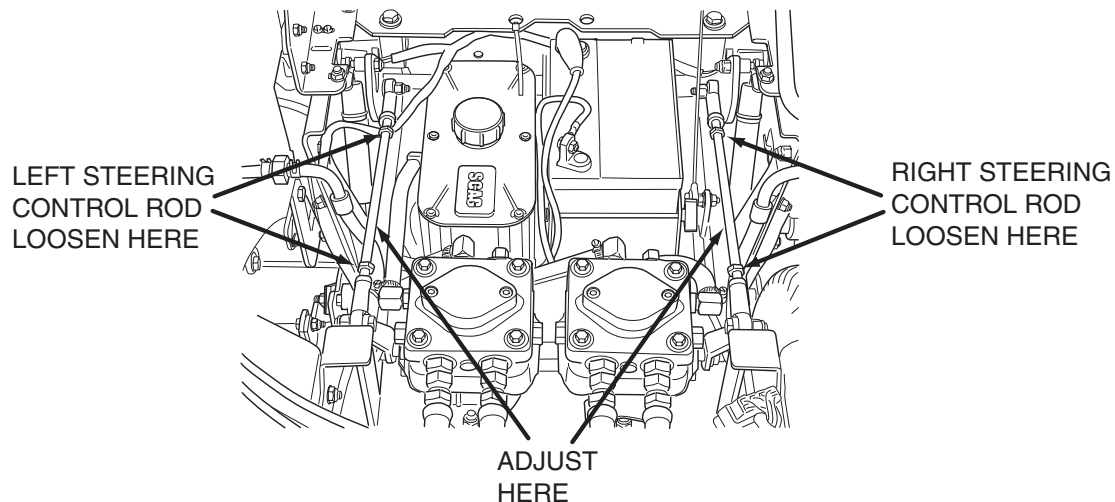

Figure 6-3. Steering Control Rods Adjustment
4. Adjust the RH wheel by loosening the jam nuts on the steering control rod and turning the rod until the drive wheel turns in the forward direction. Turn the rod back until the drive wheel stops moving. Turn the rod back an additional 1/2 turn. (See Figure 6-3).
- A. Stop the machine and place the steering control levers in the neutral position. Loosen the lock nuts securing the ball joints at each end of the LH steering control rod. Rotate the control rod to shorten the rod and tighten the lock nuts. This will cause the control rod to stroke the LH pump less, slowing down the LH wheel. (See Figure 6-3).
- A. Stop the machine and place the steering control levers in the neutral position. Loosen the lock nuts securing the ball joints at each end of the RH steering control rod. Rotate the control rod to shorten the rod and tighten the lock nuts. This will cause the control rod to stroke the RH pump less, slowing down the RH wheel. (See Figure 6-3).